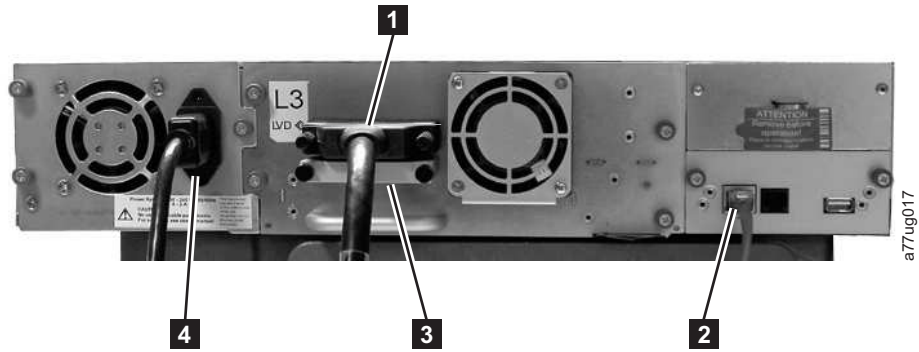
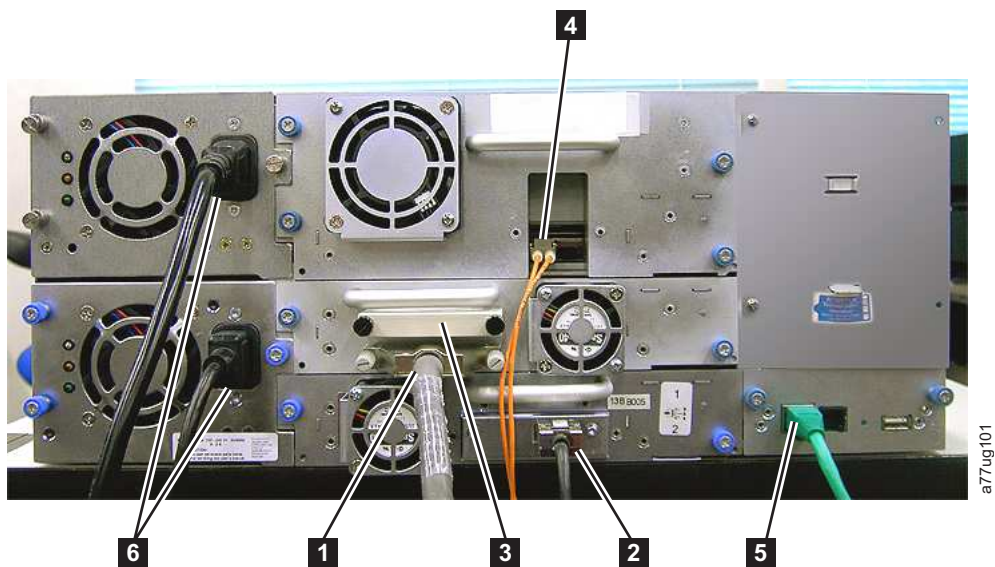
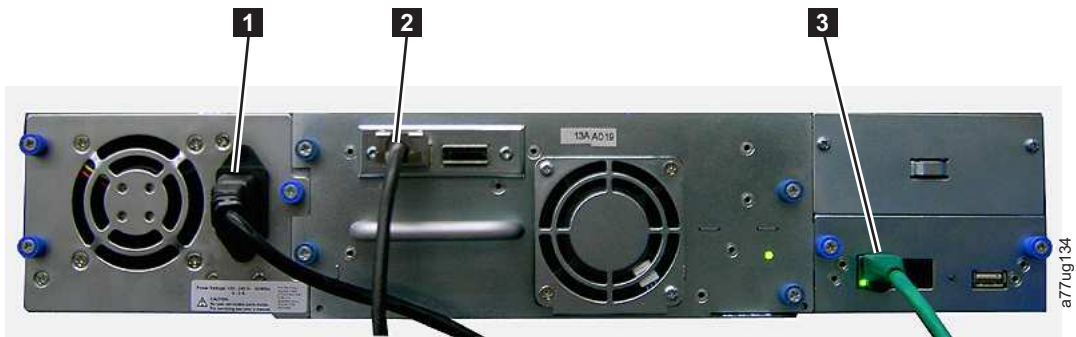

Figure 35. Attaching a SCSI host interface cable to the 2U library
Figure 36. Attaching host interface cables to the 4U library.
Figure 37. Attaching a SAS interface cable to the 2U library
2. For a SCSI library, attach one end of the host interface cable to one of the connectors on the back panel of the library (see **1** in Figure 35 on page 53). For a Fibre Channel library, attach one end of the host interface cable to the connector on the back panel of the library (see **4** in Figure 36 on page 53). For a Serial Attached SCSI (SAS) connected library, attach the host end of the SAS cable to the SAS HBA (see **2** in Figure 37 on page 53). Full height drives have dual SAS connectors. Half height drives have one SAS connector. Unused SAS connectors do not need to be terminated.
- For a SCSI library, connect the host interface cable to the connector on the SCSI host bus adapter or to the connector on the previous device on the SCSI bus. Attach the terminator (3 in Figure 35) to the remaining SCSI connector on the back panel of the library, if the library is the last or only
4. Plug the network ethernet cable (**2** in Figure 35 on page 53, **5** in Figure 36 on page 53, or **3** in Figure 37 on page 53) into the ethernet port on the back panel of the library. If the ethernet connection is directly attached to a server or notebook, a crossover ethernet cable might be required.